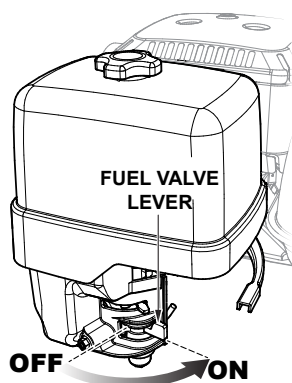

Figure 12. Engine Fuel Valve Lever (ON Position)
1. Place the engine fuel valve lever (Figure 12) to the “ON” position.